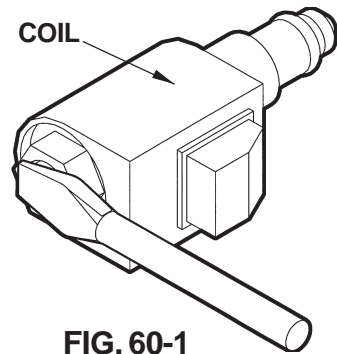

FIG. 60-1
1. Check if Solenoid Valves are constantly energized by touching a screwdriver to the top nut of the Solenoid (**FIG. 60-1**). Try pulling the screwdriver away from the solenoid. If the solenoid nut attracts the screwdriver (magnetically) without pushing the toggle switch, the control circuit is operating incorrectly. Check if toggle switch, wiring or coil are faulty.